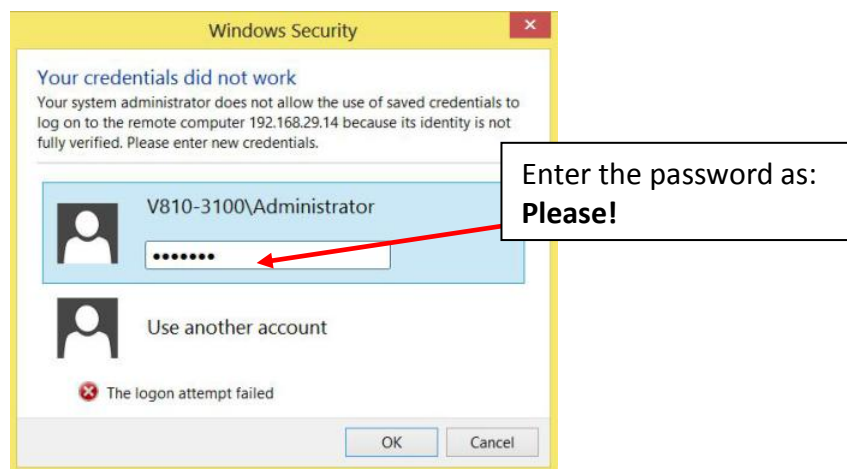

Figure 10 Password for Atom PC
21. Enter the password as "Please!" as shown in Figure 10.